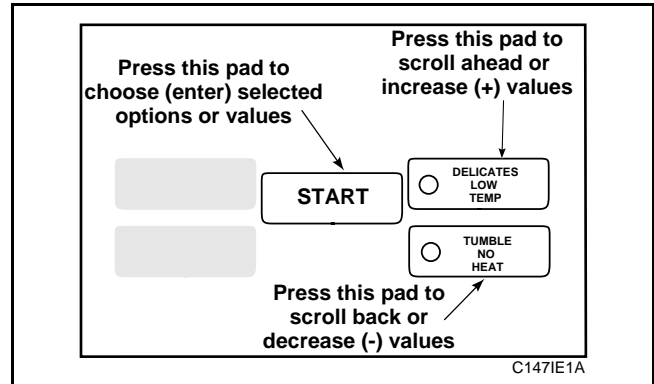

Figure 78
6. Press the LOW TEMP (+) pad or the NO HEAT (-) pad to increase or decrease the current three-digit number to the desired three-digit number selected from Chart 9, *Figure 78*.